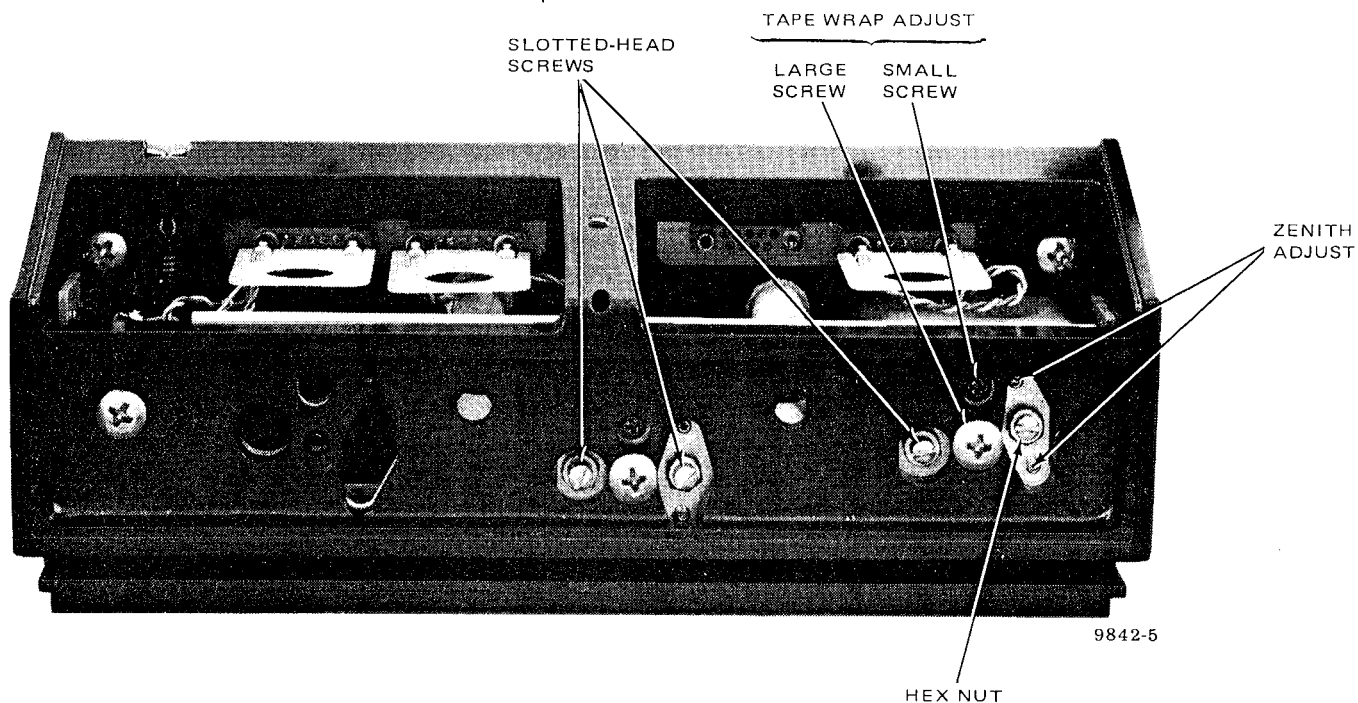

Figure 5-11. Tape Wrap and Zenith Adjustments
cross-head screw (Figure 5-11). Adjacent to the large cross-head mounting screw there is a smaller cross-head screw in a hole. Loosen the small cross-head screw, and carefully use a screwdriver to pry at the side of the aluminum plate (through which the head stack mounting screws protrude) in the required direction. Check that the shield can is aligned with the head gate shield, then tighten the screws. Recheck the tape wrap per the preceding paragraph. Repeat the process until the tape wrap is correct. The erase head is adjusted for tape wrap by loosening the mounting screw, rotating the head as required, and tightening the screw.
To adjust the head zenith, loosen the hex nut and use the two hex-socket setscrews (also used for head height adjustment, see Figure 5-11). As the adjustment is being made, visually check the zenith by lining up the head (by viewing from the side) with the capstan or the scrape-flutter idler. Turn the outermost setscrew in and the innermost setscrew out, to move the stack bottom in (away from the tape). To move the bottom of the head out (toward the tape), reverse the procedure. Be sure both setscrews remain snug. When the zenith adjustment seems correct, recheck it with the
2. Remove the large cross-head screw (Figure 5-11) and then the shield can (containing the head stack).
4. If the head stack is not in a shield can, use a screwdriver to remove the two slot-head screws and the nuts (Figure 5-11) and remove the head stack from the shield can. Be careful not to lose the double-coil lockwasher. Remove head stack and two head springs from the shield can.